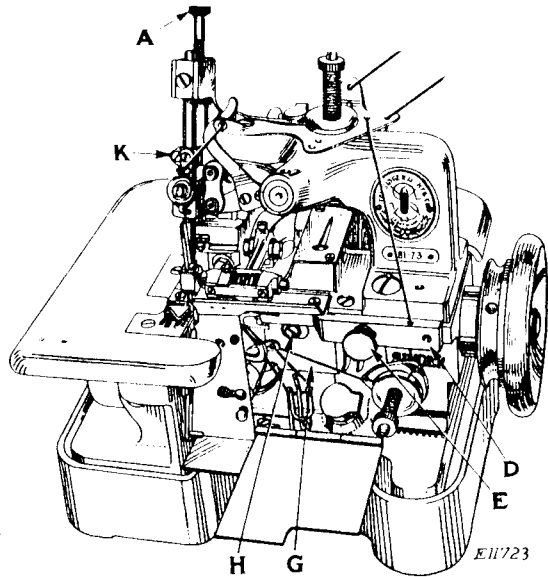
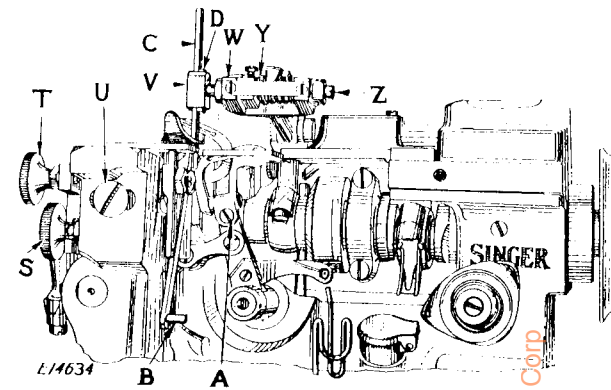

FIG. 13. ADJUSTMENTS ON THE MACHINE
FIG. 16. ADJUSTMENTS ON THE MACHINE
The pressure on the material is regulated by means of the thumb screw (A, Fig. 13). To increase the pressure, turn this thumb screw downwardly. To decrease the pressure, turn the thumb screw upwardly.
The length of stitch is regulated by means of the adjusting screw (H, Fig. 13) in the feed eccentric. **This screw faces directly outward.**
To change the length of stitch, turn the balance wheel until the lock screw in the feed eccentric appears in the hole of the cover (G, Fig. 13). **This screw faces slightly downward.** Loosen the lock screw. Then turn the balance wheel until the adjusting screw (H) is visible through the hole in the cover (G). Turn the adjusting screw (H) over to the right for a long stitch. Turn this screw over to the left for a short stitch. Then turn the balance wheel over until the lock screw appears and securely tighten this screw.
Now turn the balance wheel over from you until the needle bar has risen  $\frac{3}{32}$  inch from its lowest position. The point of the left hand looper, on its loop taking stroke, should then be at the center of the needle, and the eye of the needle should be about  $\frac{1}{16}$  inch below the looper point. If the needle bar is not at the correct height, loosen the pinch screw (K, Fig. 13) and move the needle bar upward or downward as required, then securely tighten the pinch screw (K).
The left hand looper should be set in the looper carrier by means of the screw (A, Fig. 16), so that the point of the looper on its loop-taking stroke passes as close as possible to the needle without striking it. The point of the right hand looper or spreader should pass at the recess back of the left hand looper eye as close as possible without touching it.
The lower knife (B, Fig. 16) should always be fastened in position when removing or replacing the upper knife. The lower knife is adjustable to the right or left and its position governs the position of the upper one, also the width of bite on the goods.
**To Remove the Lower Knife (B, Fig. 16)**, loosen the thumb screw (T, Fig. 16) and draw the knife downwardly.
**To Replace the Lower Knife**, have the presser foot and feed down, press the upper knife holder (V, Fig. 16) toward the balance wheel, and push the lower knife upwardly so as to touch the presser foot without lifting it, then tighten the thumb screw (T, Fig. 16).
**To Adjust the Trimmer Sidewise**, loosen the thumb screw (E, Fig. 13) and move the extension bracket (D, Fig. 13) to the right or away from the upper knife, loosen the screw (U, Fig. 16) and turn the thumb screw (S, Fig. 16) inwardly or outwardly until the trimmer is in the desired position, then securely tighten the screw (U). Move the extension bracket (D, Fig. 13) back toward the upper knife, leaving just enough clearance between the upper knife and the bracket so as to allow free movement of the upper knife, then tighten the thumb screw (E, Fig. 13).
**To Remove the Upper Knife (C, Fig. 16),** loosen the screw (Z, Fig. 16) at the end of the knife holder, press the knife holder (V, Fig. 16) toward the balance wheel and remove the knife.
**When replacing the Upper Knife,** have the knife holder in the lowest position and pressed toward the balance wheel, insert the knife and set it so that its cutting edge is just below the cutting edge of the lower knife, then tighten the clamping screw (Z, Fig. 16).
If the desired trimming margin cannot be secured by these adjustments, it may be obtained by removing the gib (D, Fig. 16) and replacing it at the **left** of the upper knife. The lower knife should then be adjusted accordingly.
When the knives are in contact, the space between the guide (Y, Fig. 16) and the knife lever (W, Fig. 16) should be about  $\frac{1}{32}$  inch.